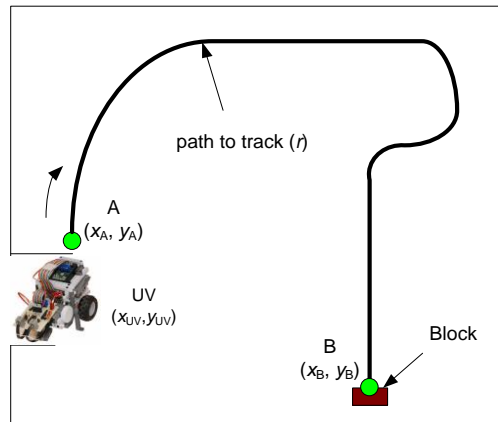

Figure 1. A project setting example.
The objective of this task is to design and implement a PID controller for a Lego Mindstorms EV3 Unmanned Vehicle (UV) for path tracking and parking. Figure 1 shows an example of a path r with a block placed at the end of the path.
There are many other tools to program the EV3 (such as Lego Mindstorm, MATLAB/Simulink, ev3dev) and you are welcome to use whatever the tools you want to program your Brick. However, the TAs will not provide any technical supports other than Lego Mindstorm and Matlab/Simulink. For example, if you get stuck with ev3dev on the Wifi connections, you will be on your own. You can consult the related forums if they can help. The overall pros and cons for each platform is listed in the Figure 1 below. Some program examples can be found in the T06 slides.